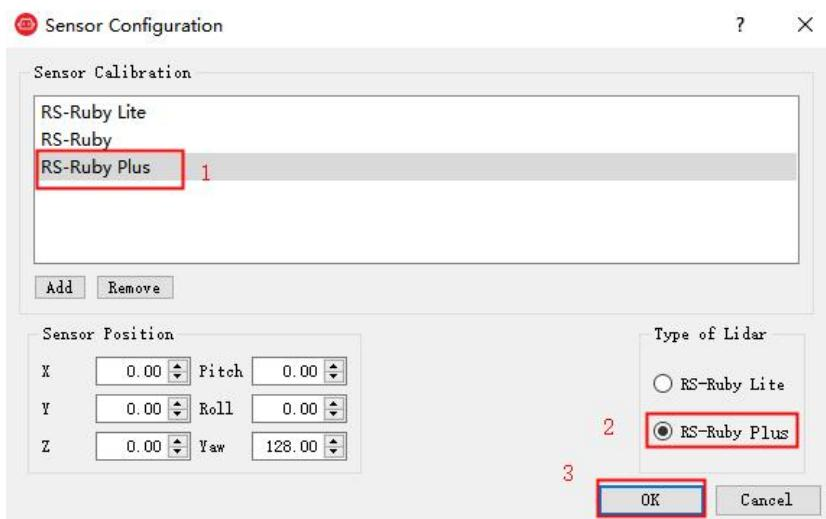

Figure C-2 Select RS-Ruby Plus Parameter Configuration File
4. The Sensor Configuration dialog will appear. In “Type of Lidar”, Chose RSBPearl. In “Intensity”, chose Mode3. Then click **OK**, as shown in Figure C-2: